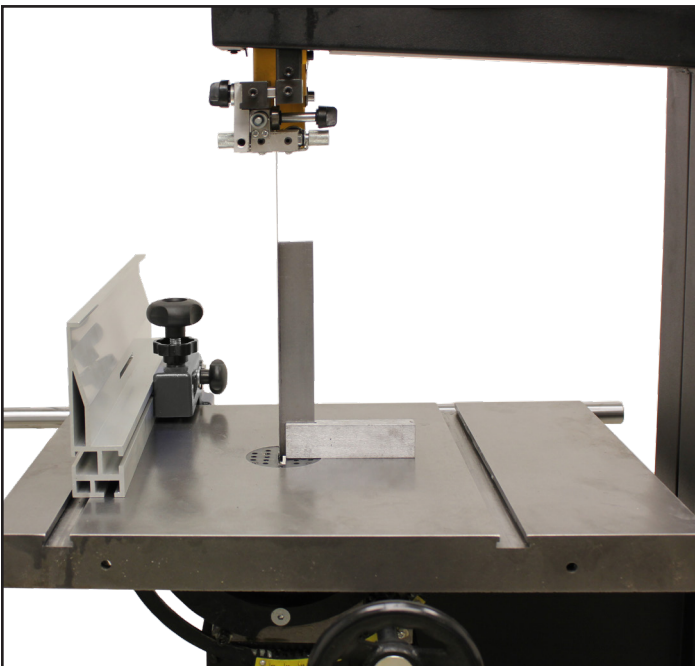

Figure 16: Squaring the Table to the Blade.
- Always tension the blade with the Quick Release Lever in the “ON” position (Figure 16).